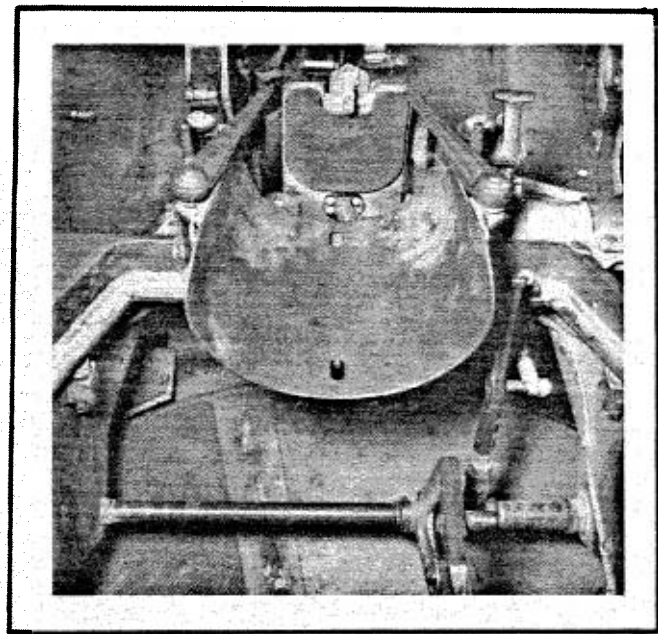

FIG. 3-52. EJECTOR TRAY
(1) The Ejector Tray (Fig. 3-52). The frame of the ejector tray is bolted to the gun carriage. Normally, the ejection mechanism is functioned by the recoil of the gun, but the mechanism can be tested electrically.